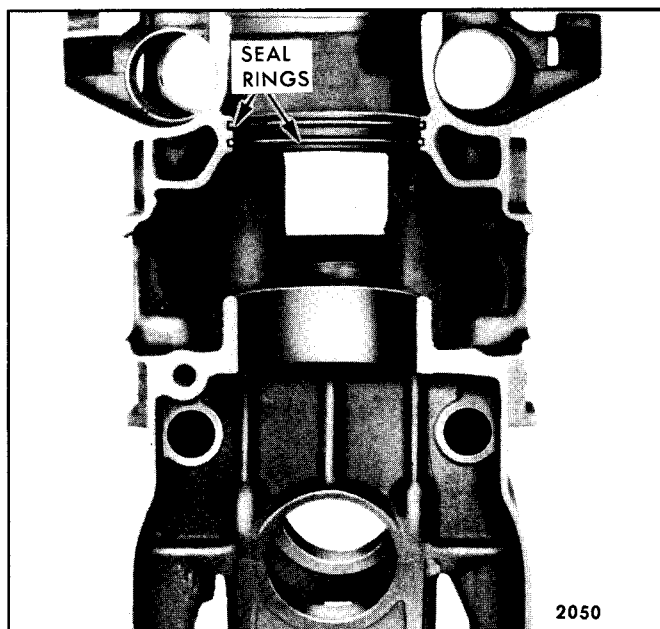

Fig. 9 - Cylinder Liner Seal Ring Location in Cylinder Block Bore
1. Make sure the seal ring grooves in the cylinder block bore are clean. Then, install two new seal rings (Fig. 9).